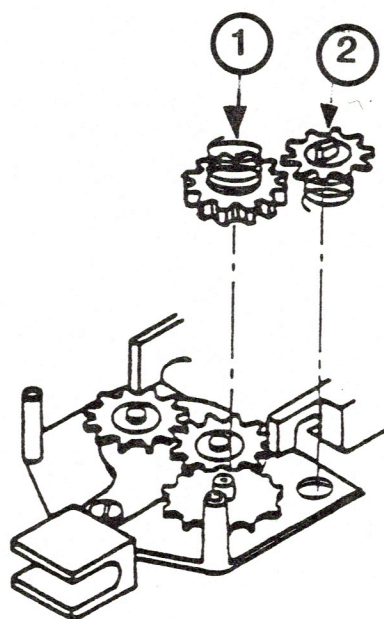

FIGURE 9
5. Replace the ratchet spring and ratchet gear. (See Figure 9, #1.)
6. Replace the ribbon spring and cassette drive gear. (See Figure 9, #2.)